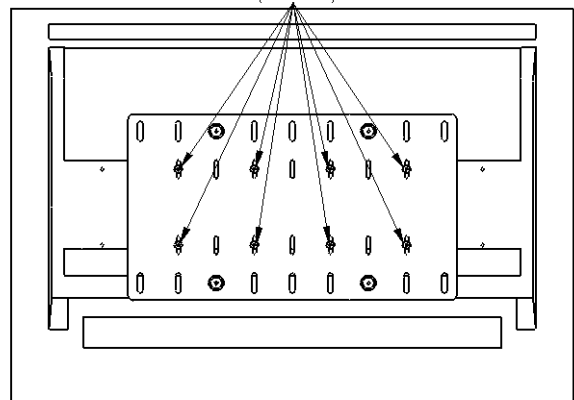

Figure 6. Display with 300mm x 100mm Hole Pattern
2. Attach the MSB-V (10) using the hole-pattern on the back of your display as shown in Figure 6.